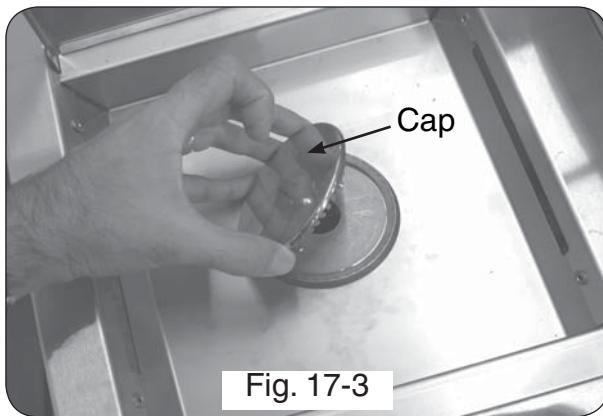

Fig. 17-3
5. Place the burner cap on top of the burner, as shown in Fig. 17-3.